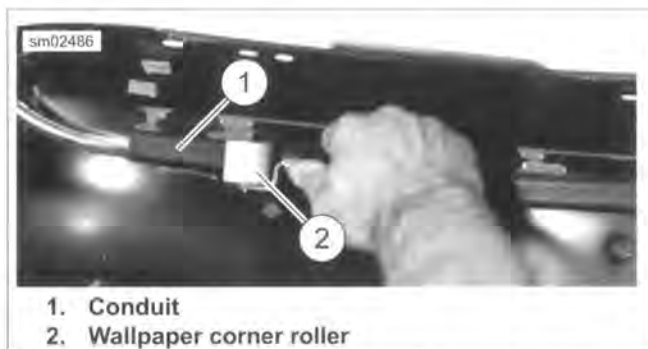

Figure 2-138. Purging Air Between Adhesive and Fender
For typical wiring harness/conduit placement, see Figure 2-138.
5. See Figure 2-138. Using a wallpaper corner roller (available at most home improvement stores), roll along conduit to purge the air from between the adhesive and the fender.